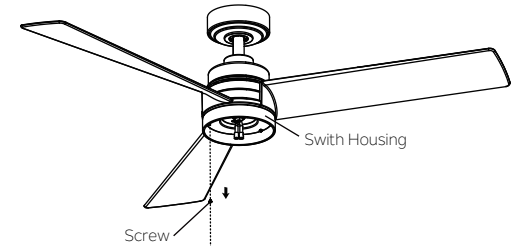

Fig. 19
Step 1. Remove one of the three screws pre-installed on the outer edge side of the switch housing and save for later use. Loosen the other two (do not removed). (Fig. 19)